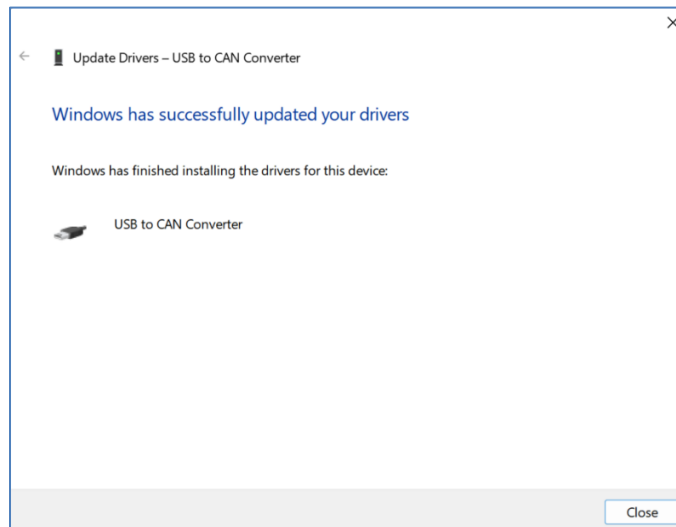

Figure 4-7. Driver Installation. Successful Installation Message
4. Press the *Next* button to install the driver. The following message should appear, telling the user that the driver installation was successful, see Figure 4-7.